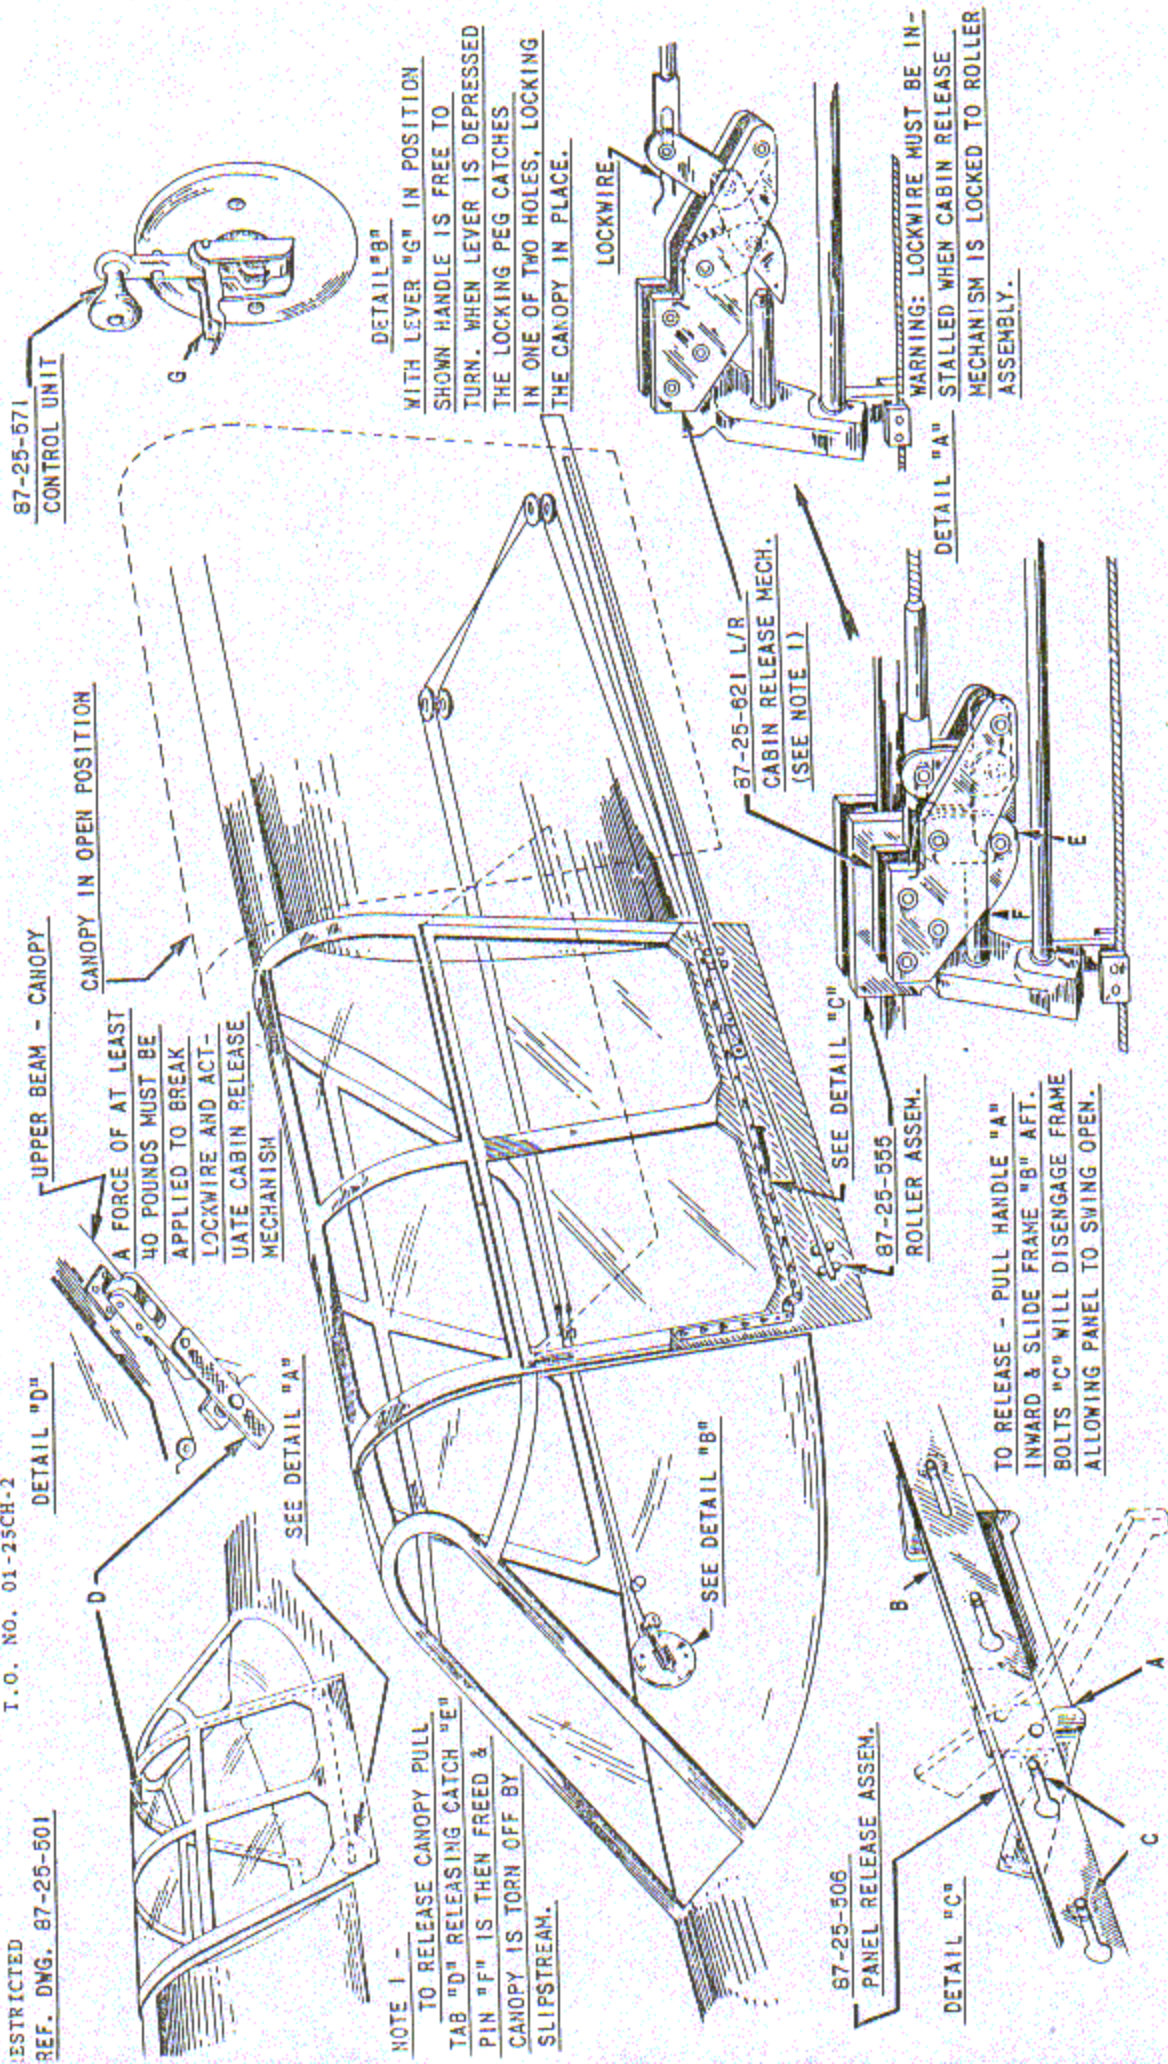

FIG. 93 - DETAIL OPERATION OF CABIN CONTROLS
(4) Cockpit Enclosure: (Drawing 87-25-501) The cockpit enclosure is made of eight pieces of "Plexiglas" supported in an aluminum alloy frame. The frame is mounted on four ball bearing roller assemblies which travel on tracks on each side of the fuselage. It may be moved to the desired fore and aft position by a hand-crank located on the forward right hand side of the cockpit (See Detail "B", Figure 93). This crank may be disengaged, in case of an emergency, by pulling the lever "G" to a horizontal position as shown in Detail "B". The canopy can then be moved forward or aft by hand. The emergency canopy release "D" is located on the forward part of the upper beam in the canopy. The complete canopy may be released from the roller assemblies in flight by pulling release tab "D" with a force of at least forty pounds which actuates the canopy release mechanism, breaking the lockwires as shown in Detail "A". It is imperative that these lockwires are installed and the canopy release mechanism should be inspected before each flight to insure the safe operation of the canopy. If the lockwires are not installed, the canopy might be torn off by the slipstream causing serious damage to the airplane. In the event of a turn-over on the ground, pull the handle "A" (Detail "C") inward and aft to allow the escape panel to swing open. This emergency exit may also be opened from the outside by means of a handle located on the lower left-hand enclosure frame. (See Detail "C"). When the airplane is parked, the cockpit enclosure may be locked by tipping the lever in the lower, rear, left-hand corner of the enclosure frame and inserting a padlock in the hole provided.